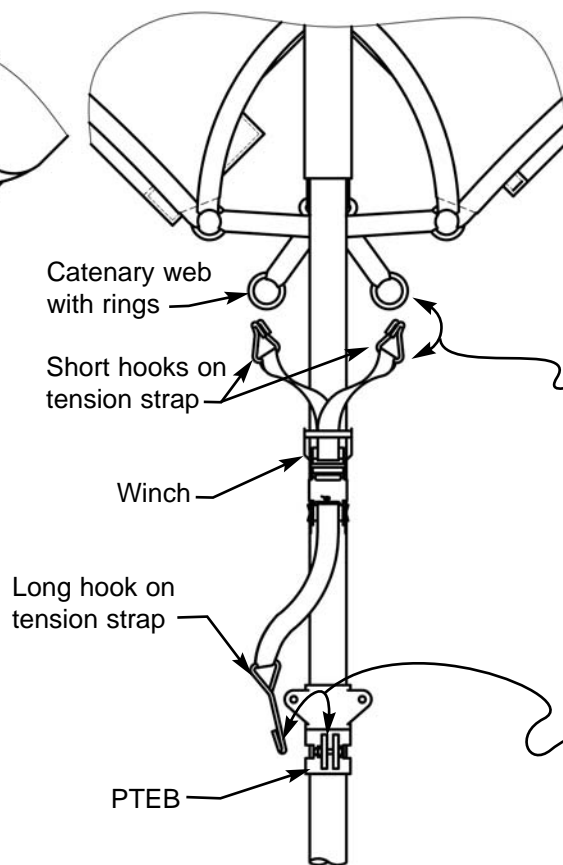

FIGURE 2
4. Place the two short hooks on tension strap into rings as shown. (fig. 2 & 3)
5. Attach long hook on bottom of tension strap to bolt on PTEB as shown. (fig. 2 & 4)